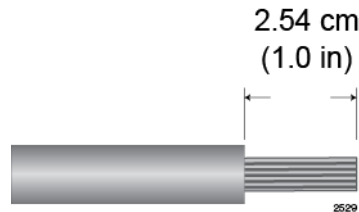

Figure 112. Stripping the solid or Stranded Grounding Wire
1. Prepare an adequate length of solid or stranded 10 AWG grounding wire by stripping it as shown in Figure 112.